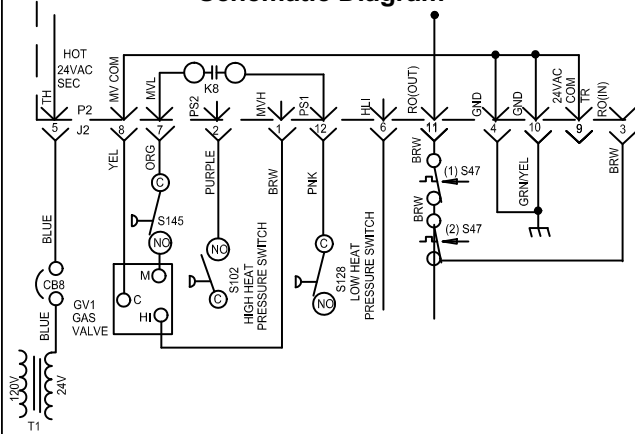

FIGURE 5
- 10 - Reinstall the manifold/valve assembly and the burner box cover. Attach provided brass fitting to gas valve inlet. Install the low inlet pressure switch (S145) to the brass fitting. See figure 4. Wire as shown in figure 5.